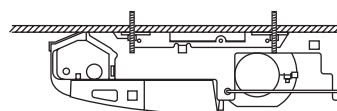

Fig. 1-60
- Tighten the two hexagonal nuts on each suspension bolt to suspend the indoor unit as shown in Fig. 1-60.